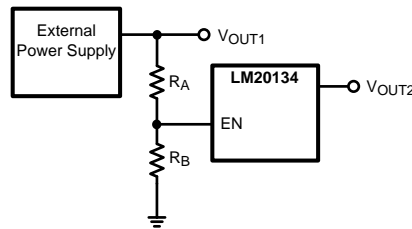

Figure 32. Sequencing LM20134 with Precision Enable
The precision enable(EN) and power good(PGOOD) pins of the LM20134 can be used to address many sequencing requirements. The turn-on of the LM20134 can be controlled with the precision enable pin by using two external resistors as shown in Figure 32